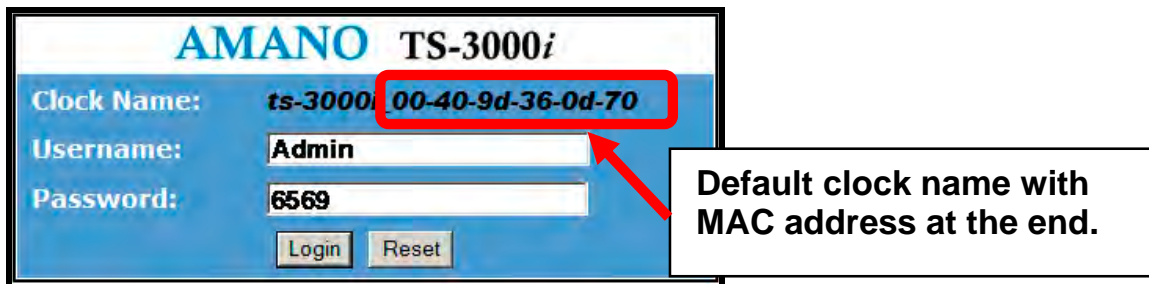

Figure 5-6: TS-3000i Web Clock Login
Step 3. When the clock(s) appears in the list, follow the tool tip and double-click on the desired TS-3000i clock to launch your browser and open to the clock's web login (see *Figure 5-6*).